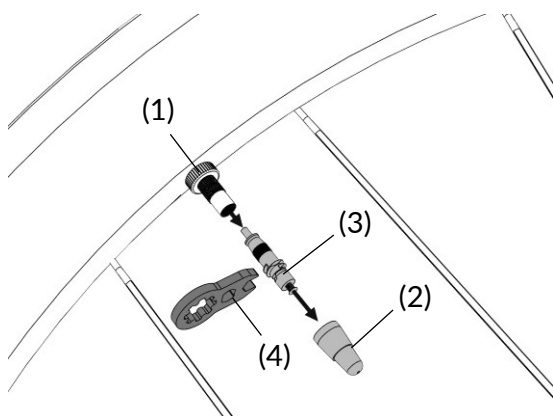

Figure 18: Remove Presta core + valve cap
2. If possible, fixate the Presta valve stem (from the inner tube) securely to the rim, by means of the locknut supplied with your inner tube (1), see Figure 18. Do not pressurize the tire at this point.
3. Remove the valve cap (2) and remove the standard Presta valve core (3) from the stem of your inner tube, using the GRAVAA valve tool (4). See Figure 18.